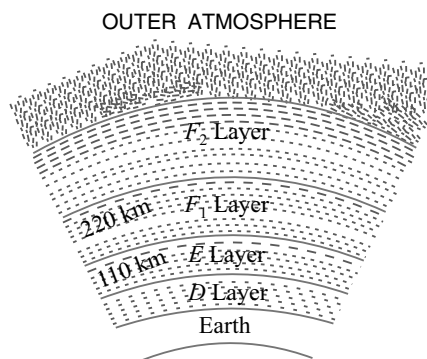

Fig. 14.15
**4. Ionosphere.** This region extends from 80 km to 400 km from the earth's surface. In this region, the constituent gases are ionised by ultraviolet radiation and X-rays from the sun. The ionosphere plays an important role in the propagation of radio waves in space communication. Because of the variation of the composition of air, there are several regions or layers within the ionosphere. The important layers of the ionosphere are *D*, *E*, *F*1 and *F*2 layers as shown in Fig. 14.15. The ionisation density (*i.e.* the number of ions or electrons per unit volume) of each layer varies with time of the day, season, altitude *etc*.
- (iii) The last layer, the *F layer*, is quite variable. At night, it exists as a single layer in a region of about 140–400 km above the earth's surface. However in day time, it splits into two layers— $F_1$  and  $F_2$  as shown in Fig. 14.15.